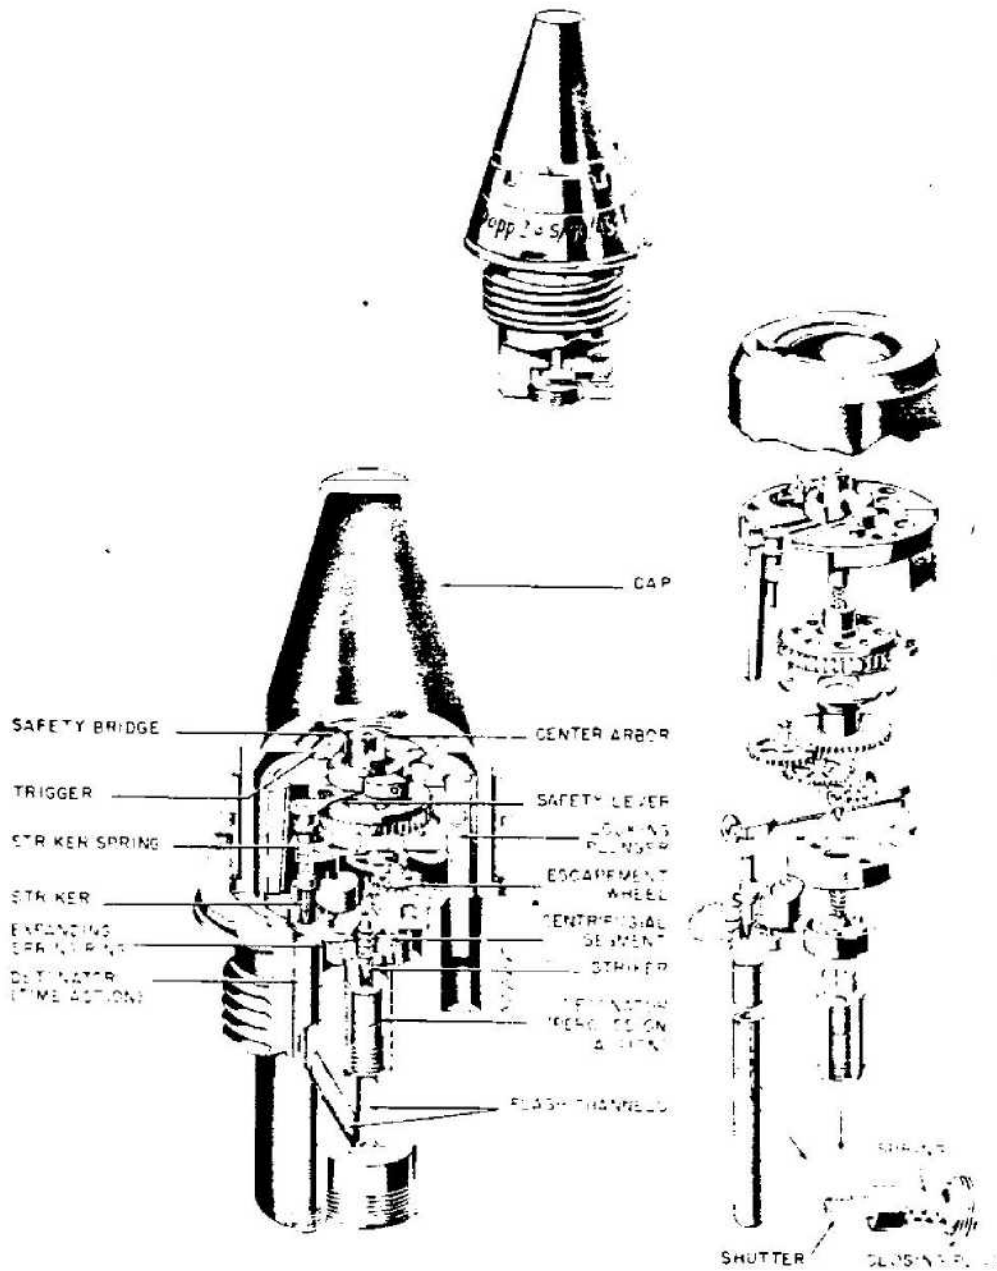

Figure 595A—Dopp. Z. S/90/45
**EMPLOYMENT:** The fuze is presumably used as an alternative in the H. E. shell (K. Gr. 39) and the H. E. B. C. shell (K. Gr. 38 (Hb)) for the 17-cm K. Mrs. Laf. (See fig. 595A.)